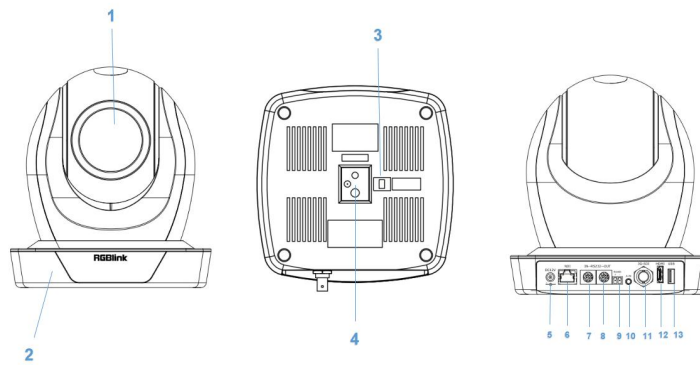

Figure 2.1 Camera Interface
a. Network Cable Connection Port: refer to No.12 in Figure2.1
a. HDMI Video Cable Connection: refer to No.11 in Figure2.1.
a. 3G-SDI video cable connection: refer to No.10 in Figure2.1